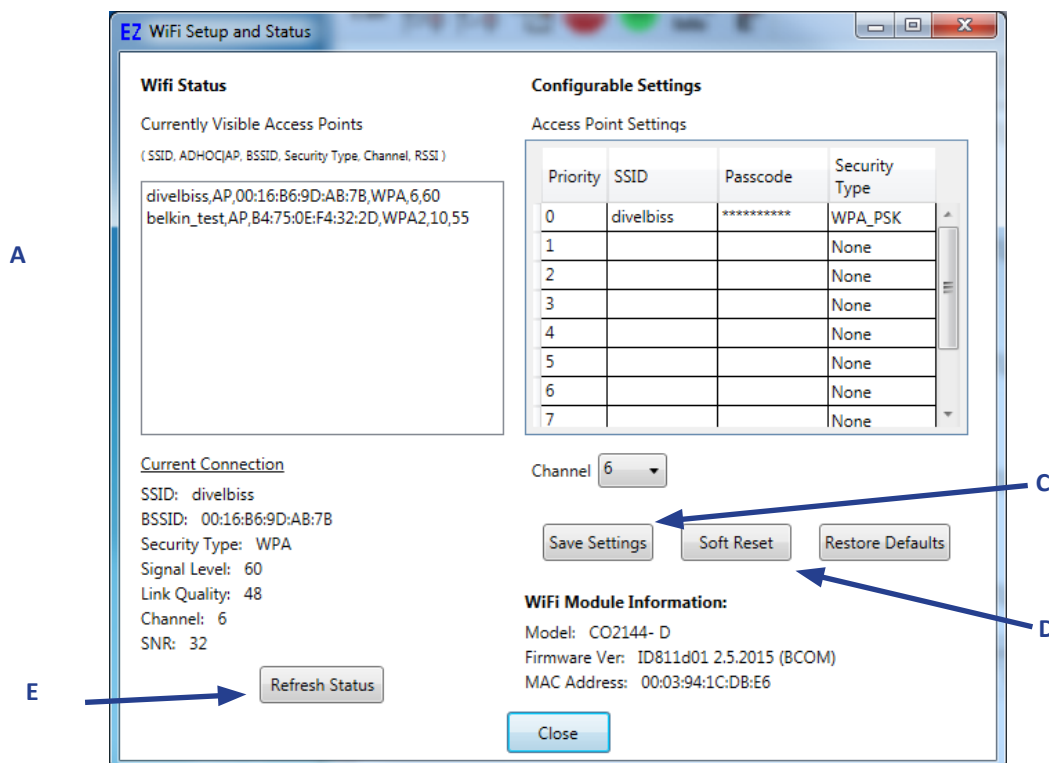

Figure 2-13 - WiFi Setup and Status
5. The **WiFi Setup and Status** window will open. An intermediate temporary dialog may be seen while the Wi-Fi module is accessed and the current Wi-Fi setup read. Refer to Figure 2-13.
6. Referring to Figure 2-13, the *Currently Visible Access Points* (item A) pane shows all the networks currently in-range for the Wi-Fi to detect. **The network must be in-range to be configured.**
7. In the Access Points Settings, enter the **SSID** and **Passcode** in their respective places (item B). It will be necessary to double-click to enter the values. Refer to Figure 2-13.
Multiple Wi-Fi networks may be saved by adding them to list shown in Figure 2-13. Each setting is stored in the on-board Wi-Fi module and is maintained during a power loss. The priority of Wi-Fi network to connect to is based on the priority number in the list.